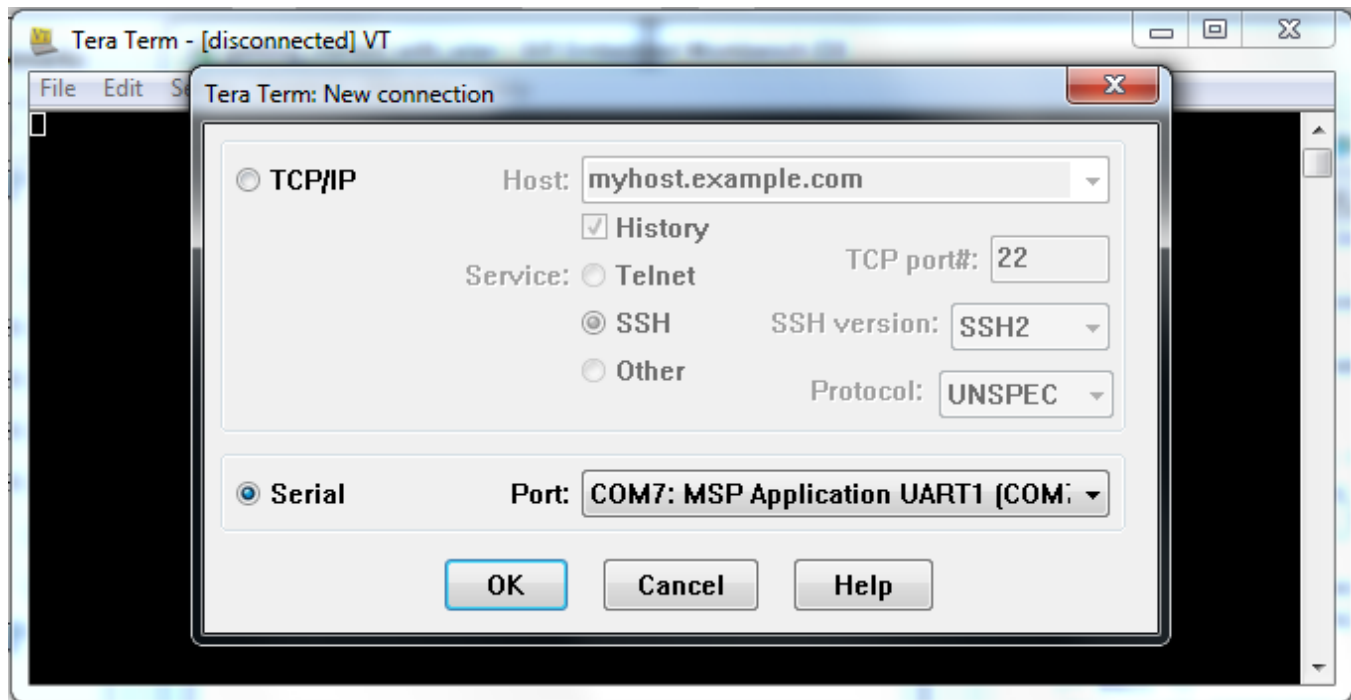

Figure 16. Launch Tera Term
7. Launch Tera Term, and create a new serial connection to the MSP430F5529 Launchpad COM port as shown in Figure 16. The baud rate should remain at 9600.